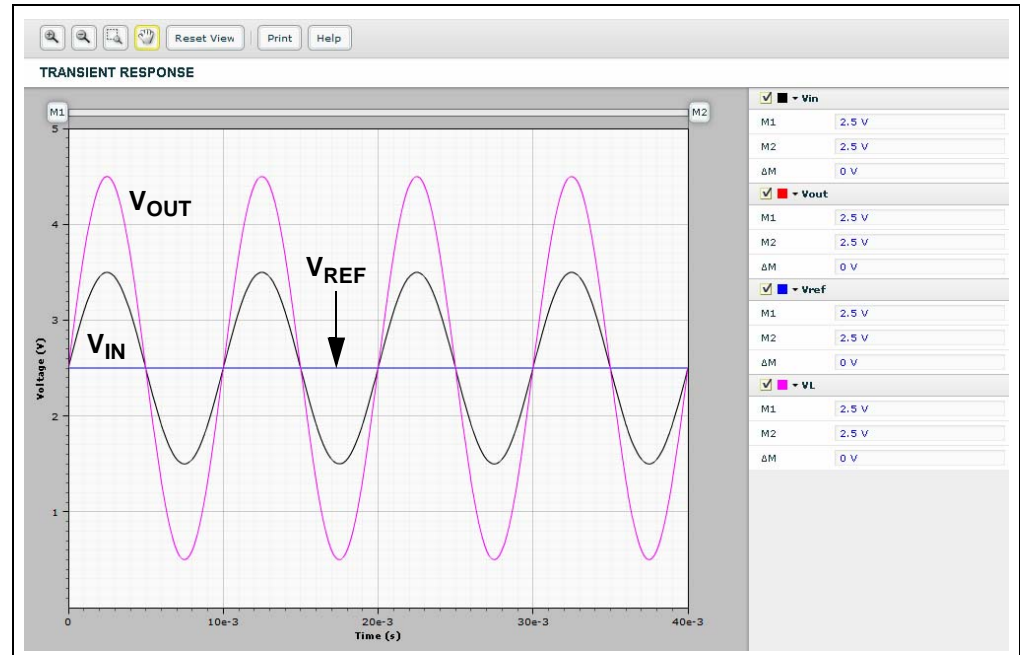

FIGURE 2-28: Simulated Sine Wave Response.
- The simulated sine wave response is shown in Figure 2-28. It is a sine wave signal with a frequency of 100.0 Hz, a peak-to-peak voltage of 4.0V and a center voltage of 2.5V